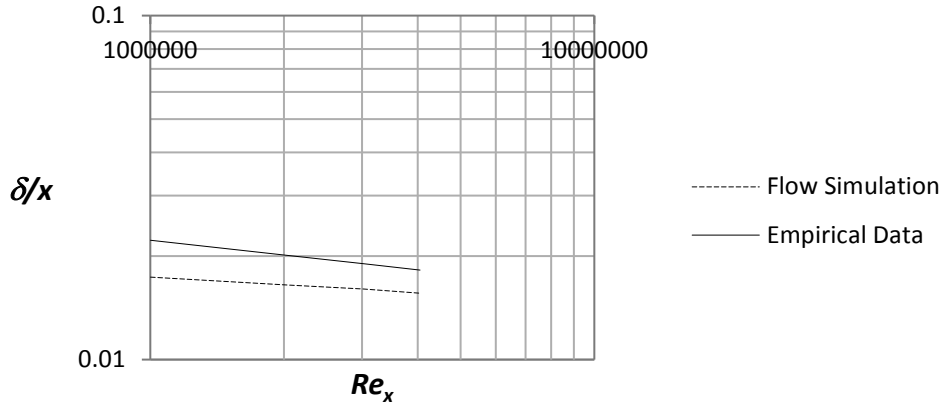

Figure 2.30b) Boundary layer thickness for turbulent boundary layers at  $Re_x = 10^6 - 4.04 \cdot 10^6$
Place the file “**graph 2.30b**” on the desktop. Repeat step 24 and choose the sketch  $x = 0.2, 0.4, 0.6, 0.8$  m and check the box for **Velocity (X)**. Rename the xy-plot to **Turbulent Boundary Layer Thickness**. An Excel file will open with a graph of the boundary layer thickness versus the Reynolds number, see figure 2.30b).